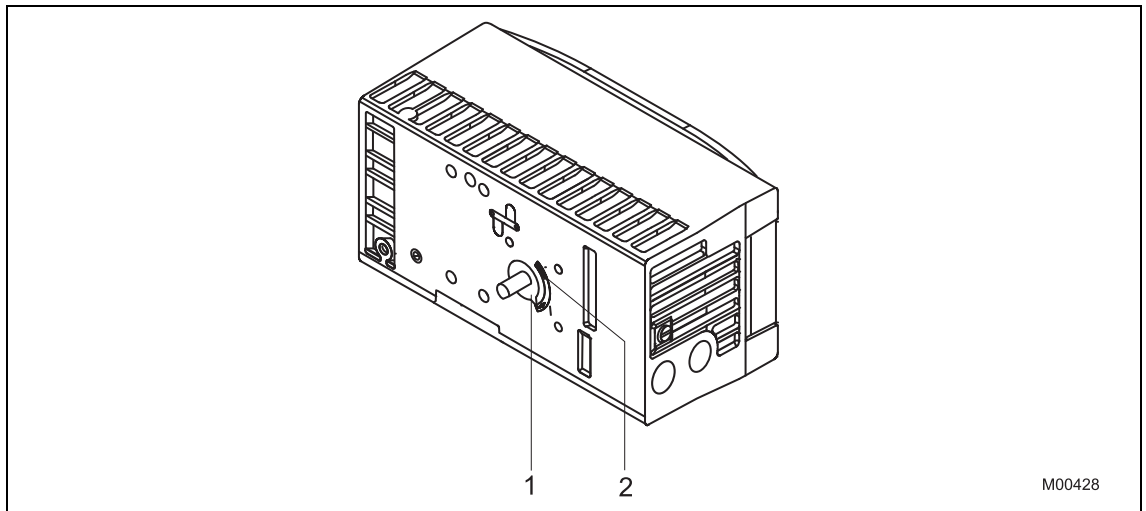

Fig. 3: Operating range
- Based on the mounting position as well as the home position and rotational direction of the actuator, determine in which position the feedback shaft (1) for the positioner must be pre-adjusted and in which position the adapter (2) must be placed to enable the positioner to travel within the proper range (the arrow on the rear of the device must travel within the admissible range, see Fig. 3).
- Place the adapter in the proper position on the feedback shaft and fasten with set screws (3). One of the set screws must be locked in place on the flat side of the feedback shaft.